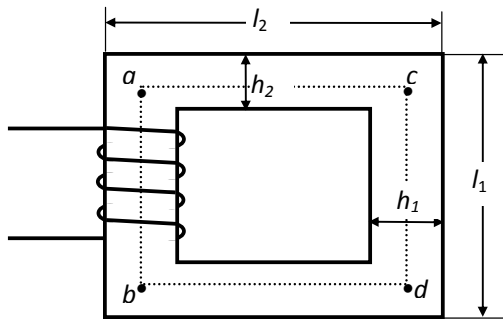

Figure 1
1. (a) The magnetic structure shown in Figure 1 is made of cast steel.